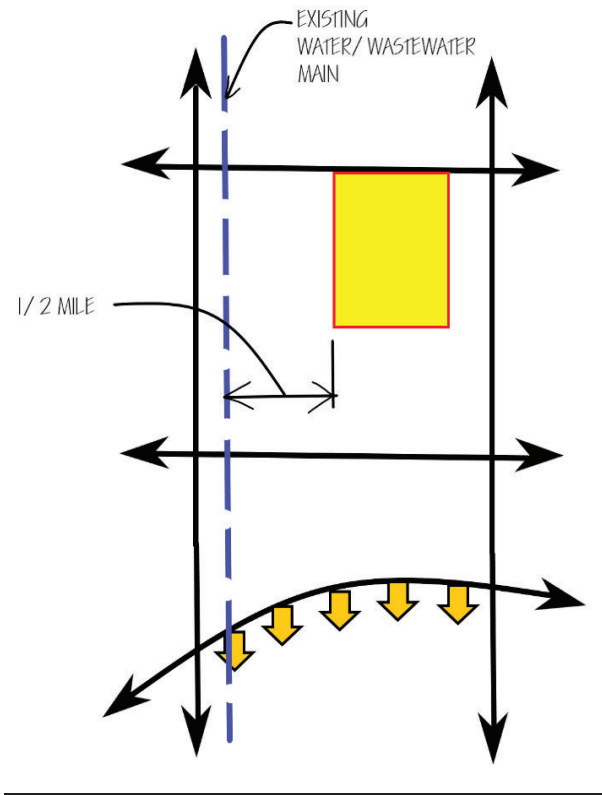

Figure 25 Utility Extension Requirements
1.6. Lot Splits are required to provide public water and public wastewater main extensions to the furthest property line when public water and/or wastewater mains is adjacent to the proposed and/or existing pre-split lot. For a single lot split, the public utility main must be within 100 feet. For multiple lot splits the public utility main must be within 200 feet to any existing or proposed public water and/or public wastewater main for required extension. The cost of any public water or public wastewater main extension will be paid for by the applicant and/or developer. See Figure 25 & 26 respectively.